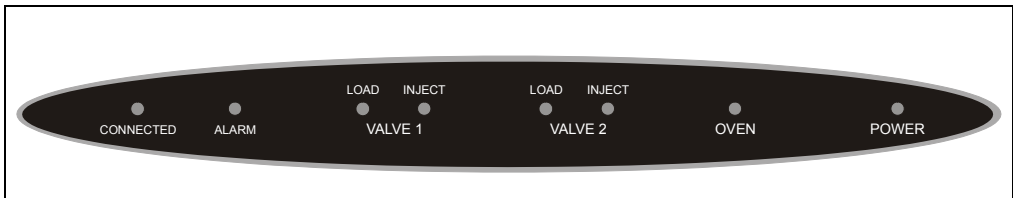

Figure 2-51. TC Status Bar
A status bar on the front of the ICS-3000 Thermal Compartment (TC) includes LEDs (light emitting diodes) that indicate the status of several TC components and functions (see Figure 2-51).